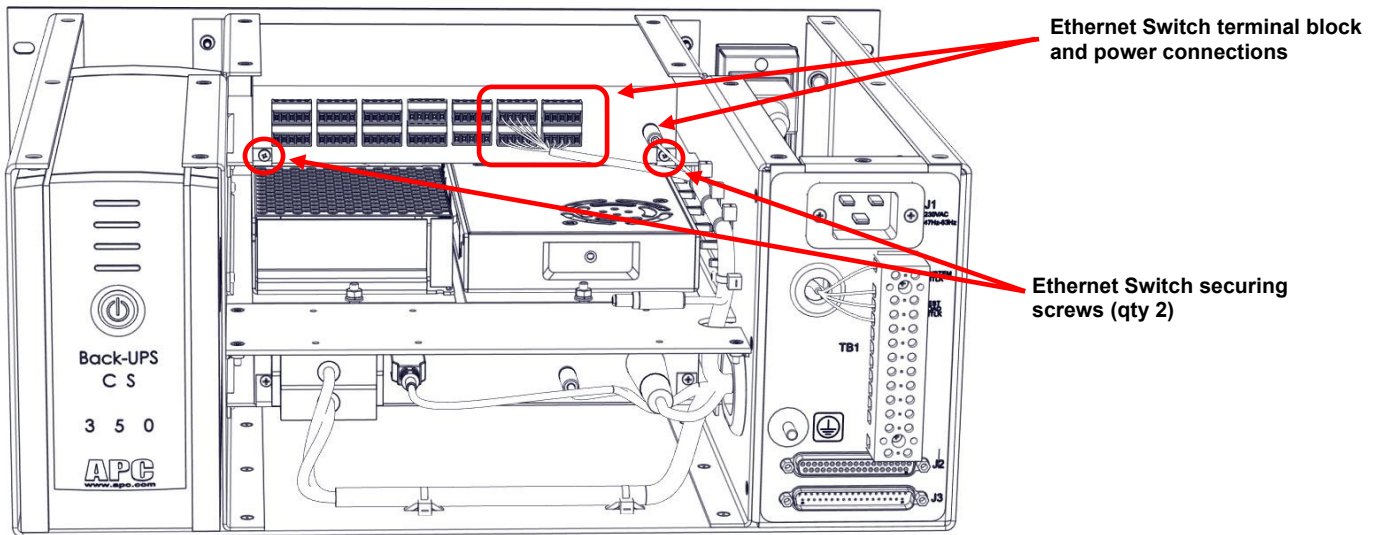

Figure 4-1: Ethernet Switch securing hardware and connections
- (d) If applicable, disconnect the cabling to the terminal blocks and the power cable, on the Ethernet Switch (U8), noting connections. See Figure 4-1 for reference.
- (e) If applicable, remove and retain the two (2) screws securing the Ethernet Switch to the chassis. See Figure 4-1.